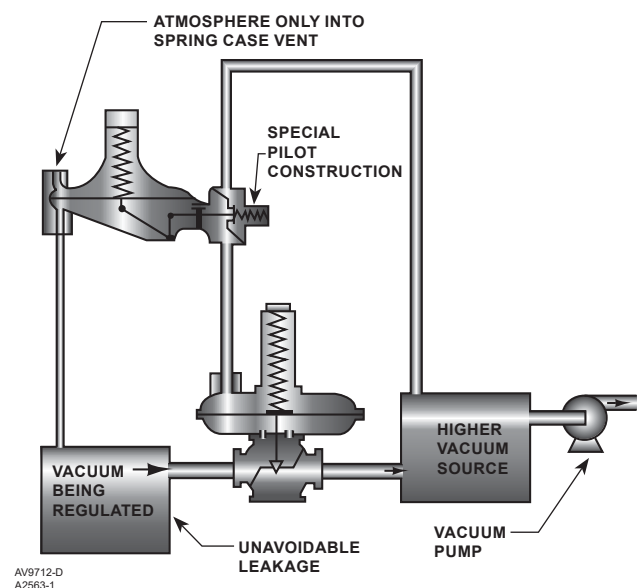

Figure 5. Type 66R Relief Valve Installation in Vacuum Regulation System
- The standard Type 66R spring case (key 2, Figure 6) has a Type Y602-10 vent assembly (key 30, Figure 6) installed in the 3/4 NPT spring case tapping. The vent may be removed and obstruction-free piping or tubing installed for remote piping of the spring case or for pressure loading of the spring case as shown in Figure 5. If kept in the spring case, the vent must be protected against clogging.